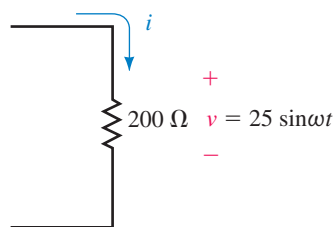

FIGURE 18-76
- For the resistor shown in Figure 18-76: